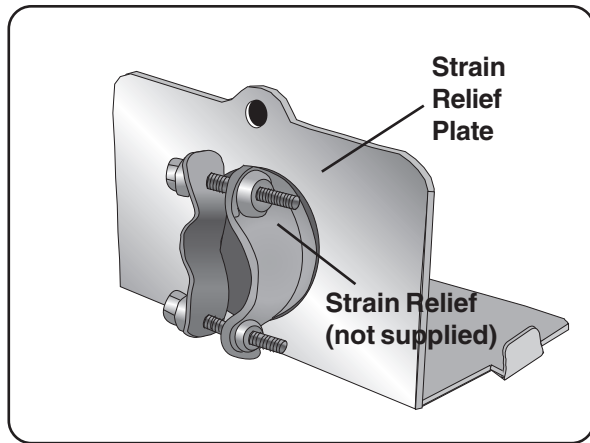

Figure 26
**NOTE:** Orient the strain relief as shown in **Figure 26**.